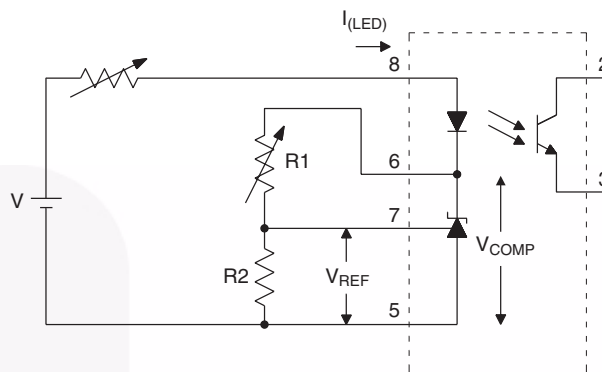

Figure 2. $\Delta V_{REF} / \Delta V_{COMP}$ Test Circuit
5. The dynamic impedance is defined as $|Z_{OUT}| = \Delta V_{COMP} / \Delta I_{LED}$. When the device is operating with two external resistors (see Figure 2), the total dynamic impedance of the circuit is given by: